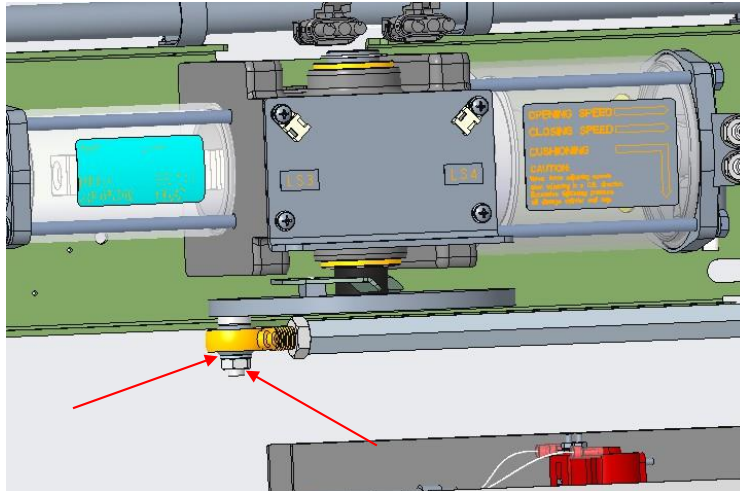
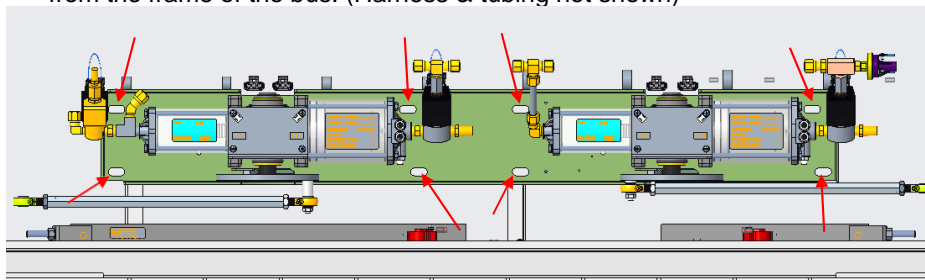
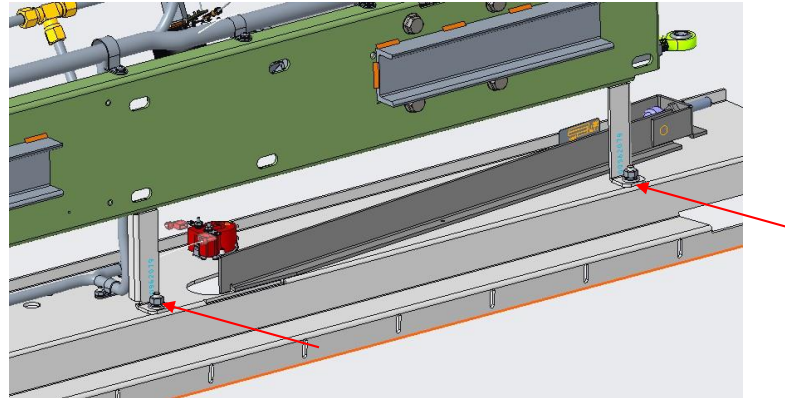

Figure 1: Drop Connecting Rod to remove Baseplate.
Figure 2: Remove Mounting Screws
Figure 3: Loosen Nut to access backplate.
- H.2. Locate LH & RH Pneumatic Operators, 50940345-02 & -03. Disconnect Connecting Rod connected to pin of Teeter Plate by removing nut and lock washers shown in Figure 1. Repeat for both operators. Save nuts and lock washers for reinstallation.
- H.3. Remove 8 mounting screws from slots shown in Figure 2 to remove backplate from the frame of the bus. (Harness & tubing not shown)
- H.4. Locate the 2 Hex Nuts that mount legs to the bottom plate at the backside of the baseplate. Carefully loosen Hex Nuts in 2 locations, shown in Figure 3. Backplate should fold forward for access to operator mounting screws. (If needed, entire backplate can be removed and remounted when complete)
- H.12. With new operators installed, tighten Hex nuts on Baseplate mounting legs in 2 locations. Torque the Nuts to 84 IN-LBS, refer to H.4 & Figure 3. Screw in 8 Mounting screws back into the slots. Torque to 23 FT-LBS and apply torque stripe, refer to H.3 and Figure 2. Reinstall the nuts and lock washers to Connecting Rods. Torque to 13 FT-LBS and apply torque stripe, refer to H.2 and Figure 1.